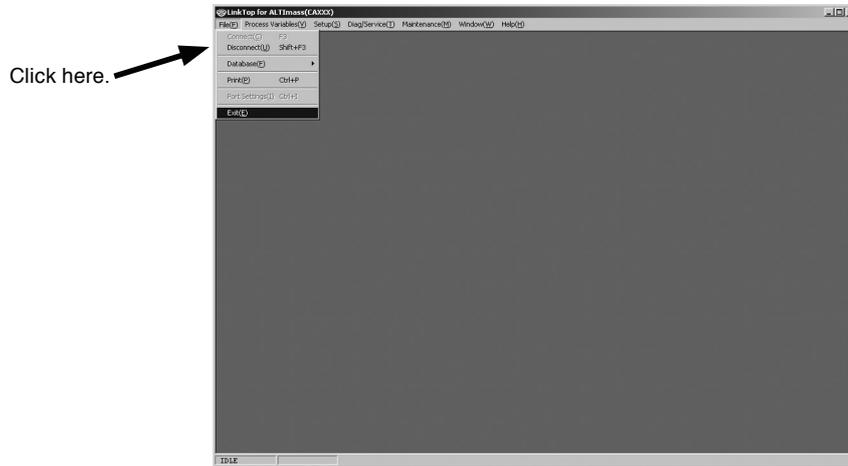

Fig.12
- ① Click on "File (F)" at top-level menu on the screen as shown in Fig. 12, select "Disconnect (U) Shift + F3" and click on again.